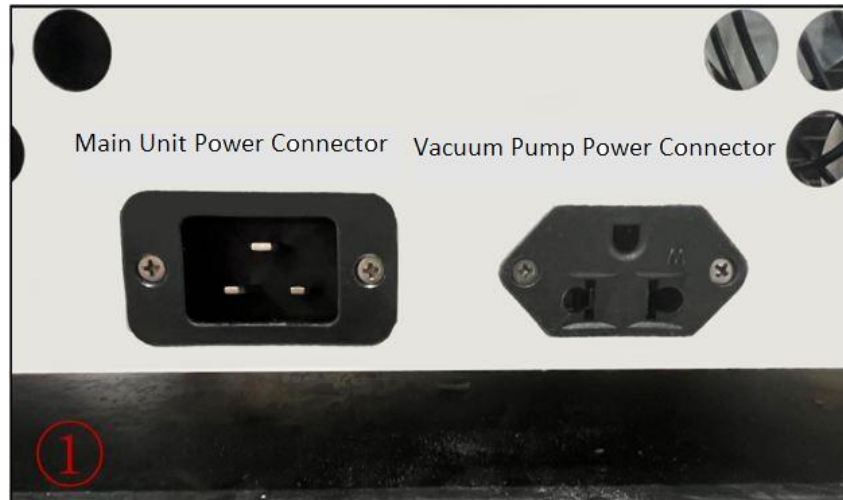

Figure 8
- Locate the power connectors for the main unit and the vacuum pump at the right side of the freeze dryer (Figure 8).